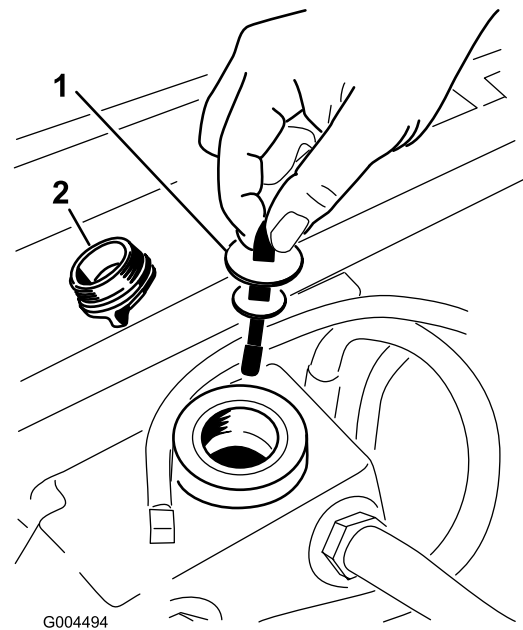

Figure 70
3. Remove the hydraulic fill cap (Figure 70) from filler neck.
4. Remove the dipstick and wipe it with a clean rag (Figure 70).
5. Place the dipstick into the filler neck; then remove it and check level of fluid (Figure 70).